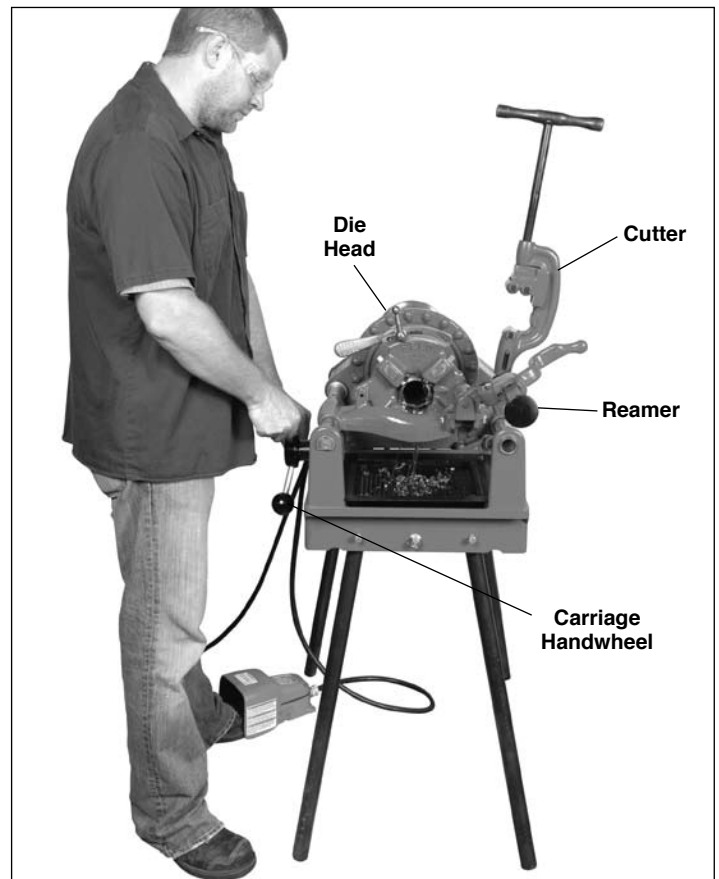

Figure 4 - Threading Pipe with Quick or self-opening die head
2. Swing cutter and reamer to out-of-way position (Figure 4).